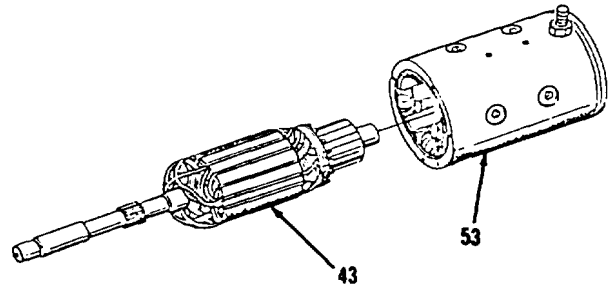

Figure 4-79.
32. Remove armature (43) from housing (53, Figure 4-79).